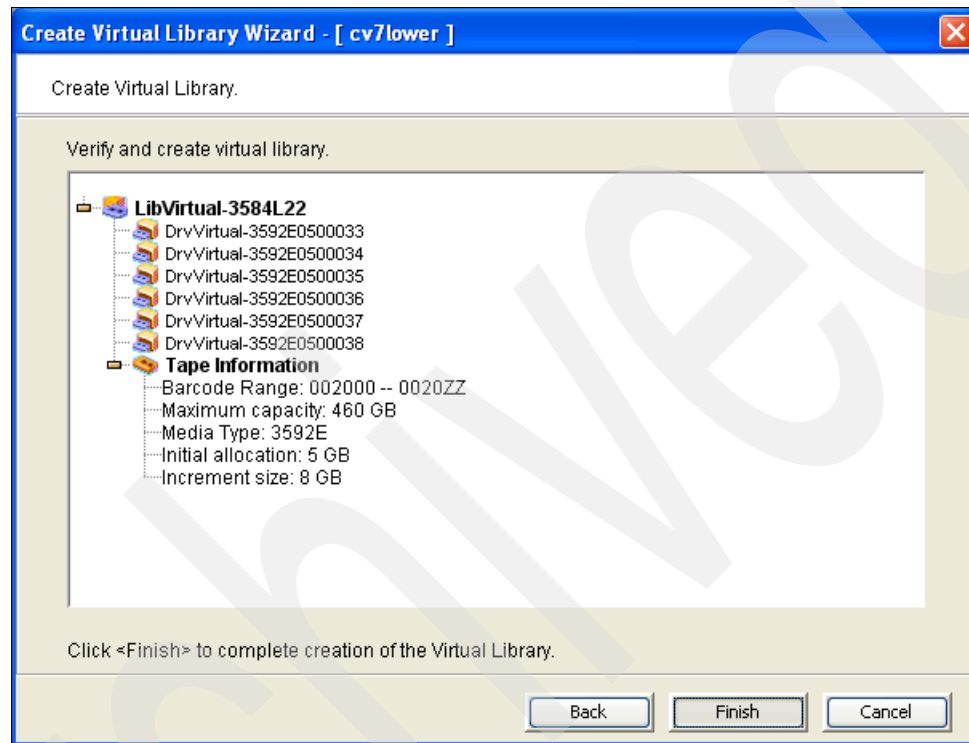

Figure 6-42 Cached virtual library creation: Confirm library configuration
9. Verify the configuration of the library displayed in the panel similar to the one shown in Figure 6-42. Click **Finish** to create the library.